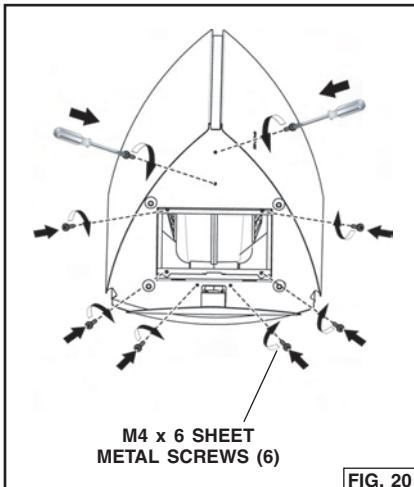

FIG. 20
4. Attach the Range Hood Bottom to the Bottom Flue with (6) M4 x 6 Sheet Metal Screws. Fig. 20.